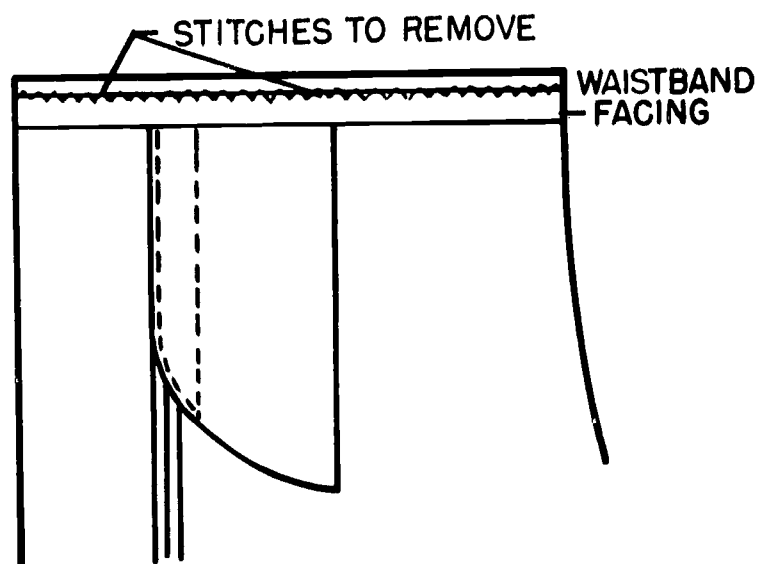

Figure 78.
1. Before ripping, observe carefully the construction of the pocket. Remove belt loop if there is one. Remove stitches attaching waistband facing to top of trouser waistline just far enough to get into pocket area (see Figure 78).